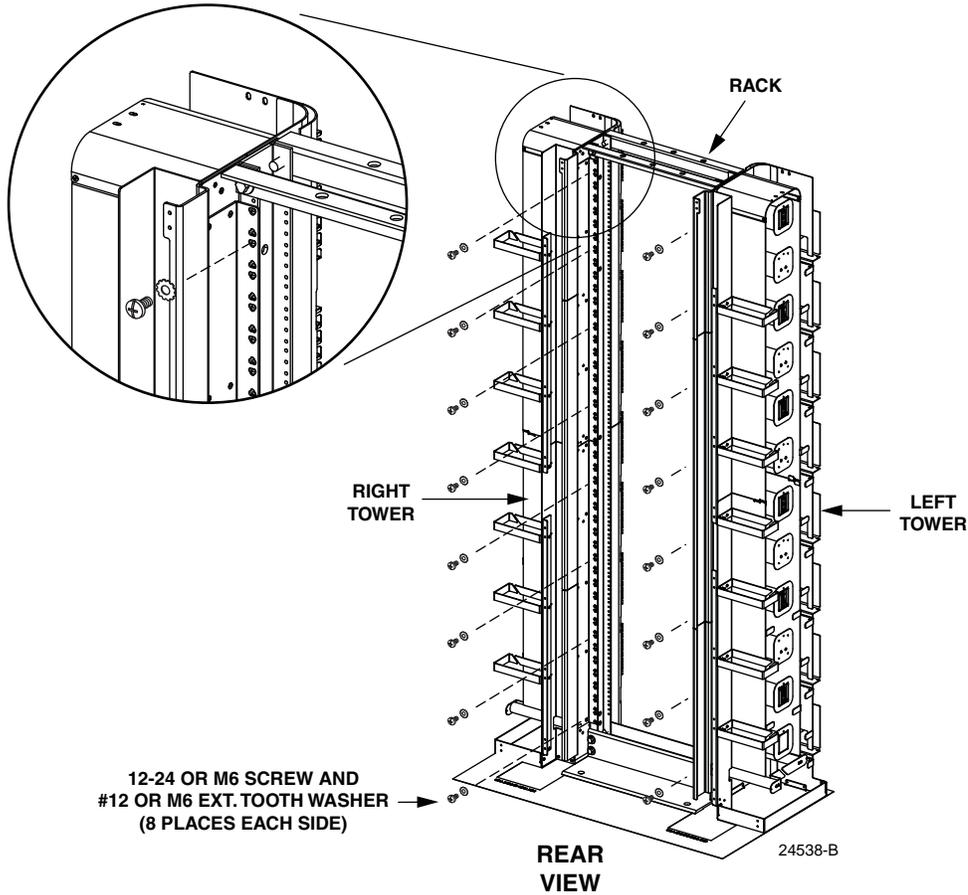

Figure 7. Install Tower Mounting Screws
3. Secure each tower to rack with eight of the appropriate screws and washers. See Figure 7. Starting near the top place screws at approximately 10 to 11-inch (254 to 279mm) intervals.